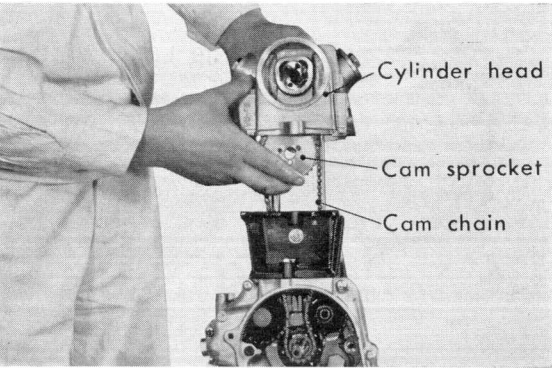

Figure 3-23. Installing the cylinder head
- (1) Install cylinder head together with cam sprocket. (Fig. 3-23)
The lubricating oil is pressure-fed into the right side of the camshaft and is forced out of the holes in the cam to lubricate the cam surfaces, rocker arms and the slippers. The camshaft is made of special cast steel with the cam and the bearing area being precisely ground after heat treatment. The camshaft is supported at both ends by the bearings in the cylinder head, a cam sprocket is installed on the left end of the camshaft with 6mm bolts and is driven at one half crankshaft speed by the timing sprocket press-fitted to the crankshaft end, by means of a light weight endless chain. (Fig. 3-23, 3-33)